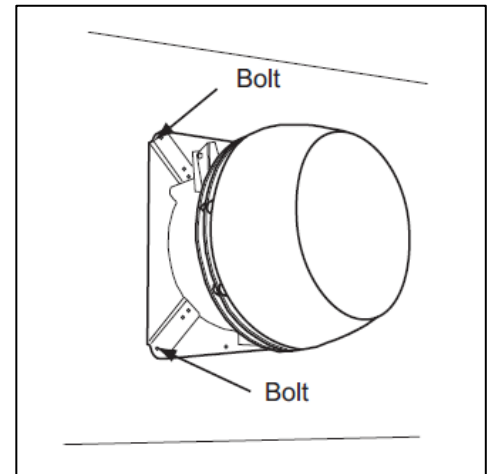

FIGURE 34
5. To ease installation, detach the fan base by removing the bolts holding the hinges together. Center the fan base over the outlet and bolt the base onto the wall with the hinges pointing upwards. (**Figure 34**)